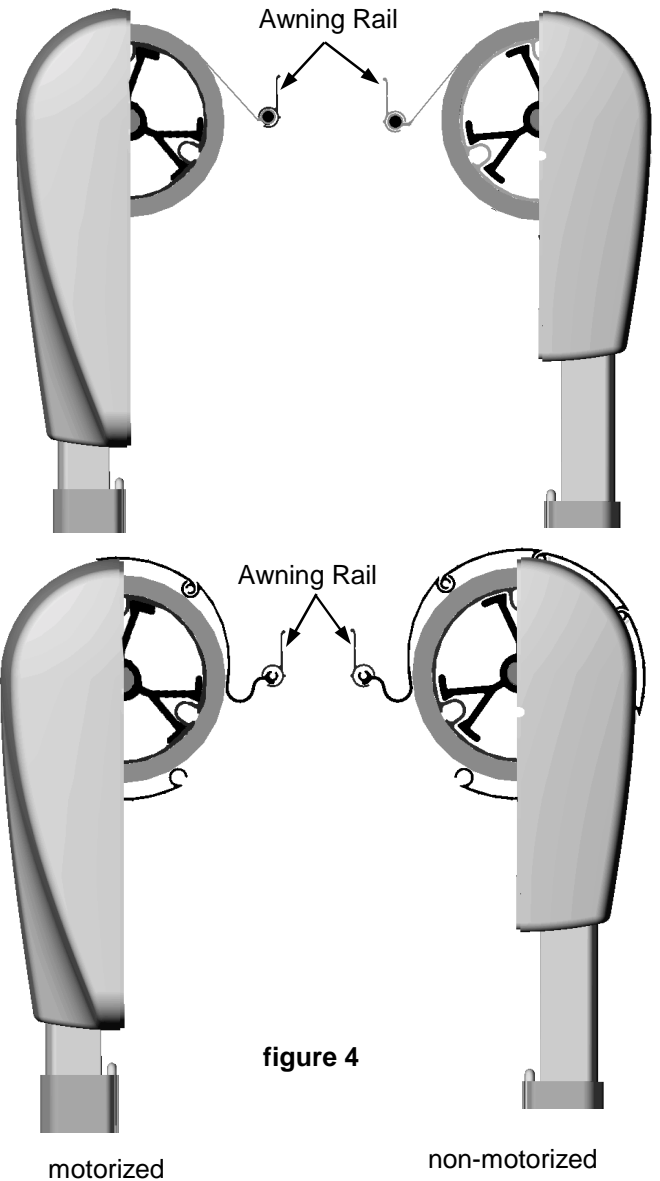
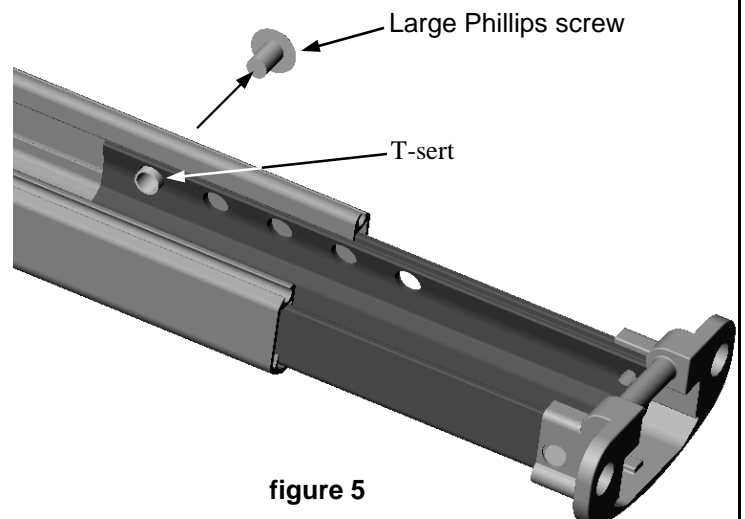

figure 4
figure 5
A. When the awning assembly is installed on the RV it should closely match **figure 4** showing the awning assembly viewed from the motorized and non-motorized sides. Start by removing the large Phillips Screw assembly on the side of the motorized arm assembly and slide the adjustable leg out of the arm assembly (see **figure 5**).